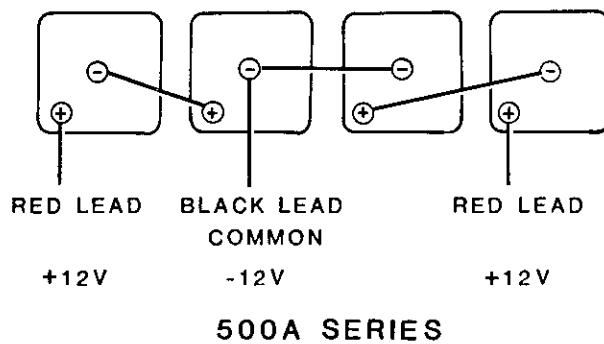

Fig. 18 — Transmitter Battery Hookup
- (1) For access to the transmitter battery compartment, take the receiver out of the transmitter. The batteries are located in the bottom of the carrying case, beneath a plastic storage tray. Remove the four screw fasteners and lift the storage tray out. Remove the battery cover clamp and cover.
- (2) Disconnect each battery, lift from case and replace with a fresh battery. Place new batteries in the same position as the old batteries. Attach the wiring as indicated in Fig. 18.